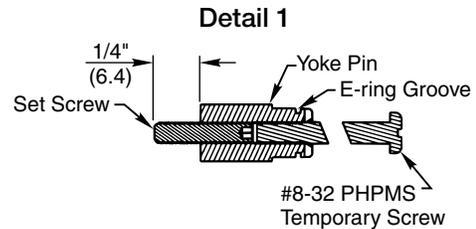
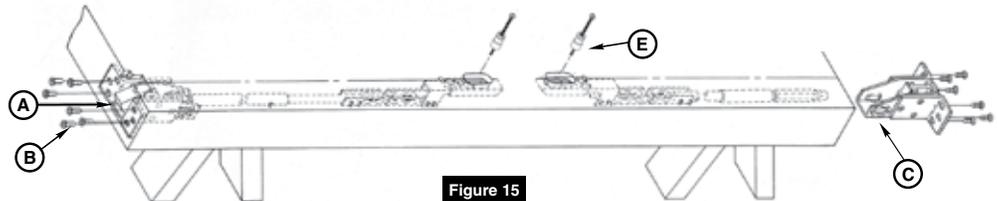

Figure 14
Figure 15
- A. Slide rod assemblies into door. (Figure 15)
- B. Attach top latch with six (6) #10-24 X 1/2" PFHMS.
- C. Install bottom bolt case with six (6) #10-24 X 1/2" PFHMS.
- D. Thread set screw into yoke pins (Insert with hex socket end inside pin). Thread #8-32 x 2" PHPMS screws into slotted end of yoke pins until seated to hex head set screw. (Detail 1 - Figure 14)
- E. Install two (2) yoke pin assemblies into arm and bracket assemblies.